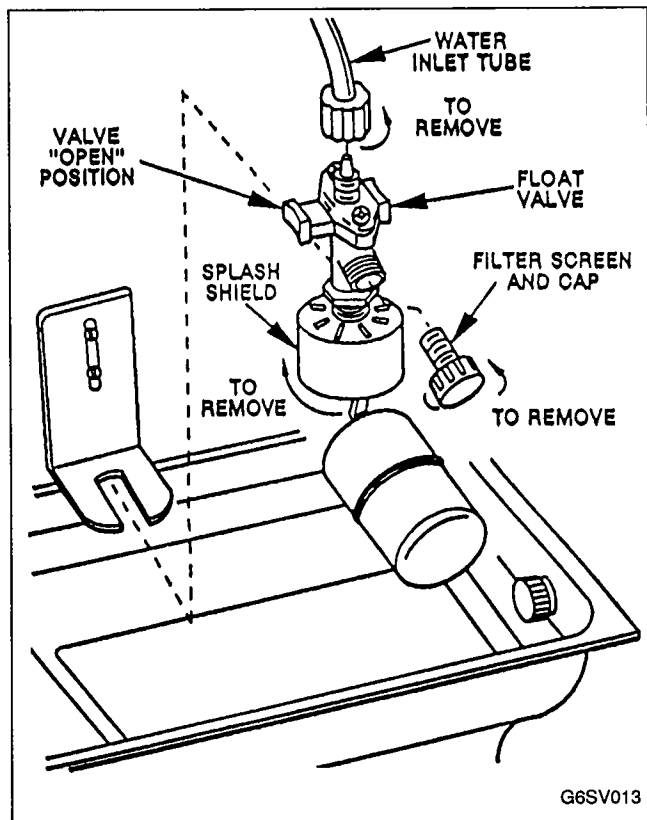

FIGURE 13. FLOAT VALVE REMOVAL
## REMOVE FLOAT VALVE (Figure 13)
1. Turn on water to ice machine at water service valve and verify float valve is open, Figure 13, page 15.
2. Allow trough to fill to proper operating level, Figure 13, page 15.
6. Shut off water at float valve. See Figure 13.